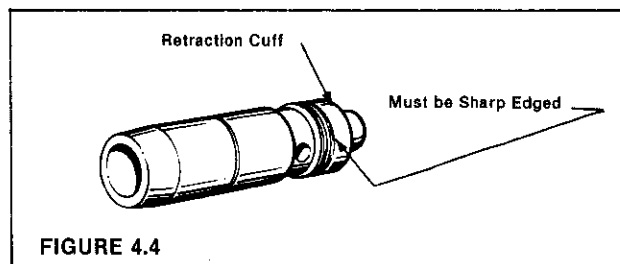

FIGURE 4.4
4. Delivery Valve - Inspect delivery valve retraction cuff for chipping or erosion of edges (Figure 4.4).